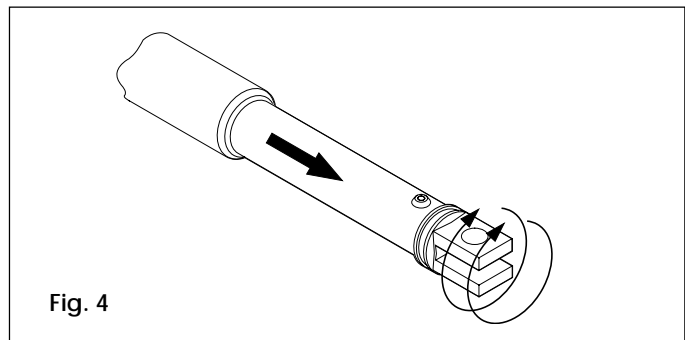

Fig. 4
- 4) Fully remove the operator's stem (fig. 4).
- 6) Turn the operator stem twice clockwise (fig. 4).